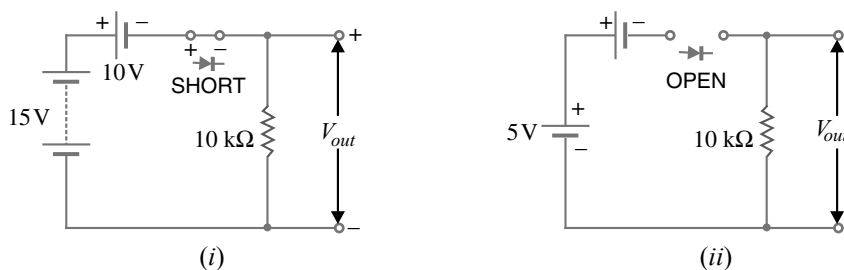

Fig. 16.43
**Solution.** For any value of  $V_{in} > 10\text{ V}$ , the ideal diode is forward biased and  $V_{out} = V_{in} - 10$ . For example, at  $V_{in} = 15\text{ V}$  [See Fig. 16.43 (i)],  $V_{out} = 15 - 10 = 5\text{ V}$ .
For any value of  $V_{in} < 10\text{ V}$ , the ideal diode is reverse biased. Therefore, circuit current is zero and hence  $V_{out} = 0$ . For example, with  $V_{in} = 5\text{ V}$  [See Fig. 16.43 (ii)],  $V_{out} = 0$  and  $V_d$  (drop across diode) =  $5\text{ V}$ .